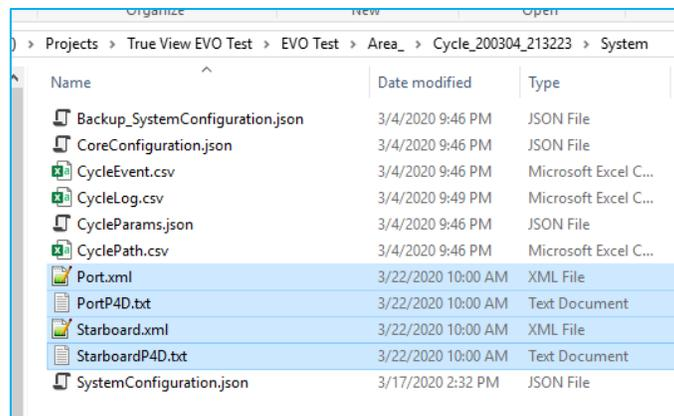

Figure 101 – Example Location of Camera Calibration Files
- c) Camera calibration files are also created for each camera in Project\Area_\Cycle_YYMMDD_HHMMSS\Flight_YYMMDD_HHMMSS\System folder (Figure 101).